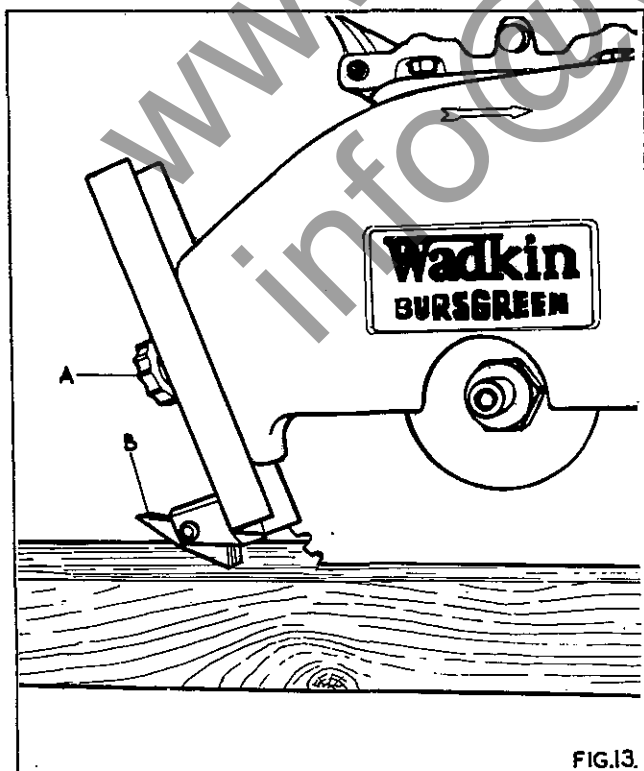

FIG. 13.
The guard gives maximum protection for all operations. The guard is fitted with an anti-kick back device as shown in Fig. 13 and riving knife for ripping. The riving knife is easily detachable and can be replaced by a sheet steel visor when used for crosscutting. The visor is adjustable throughout the full depth of cut of the machine.
1. Place timber to be ripped in kick back fingers as shown in Fig. 13.